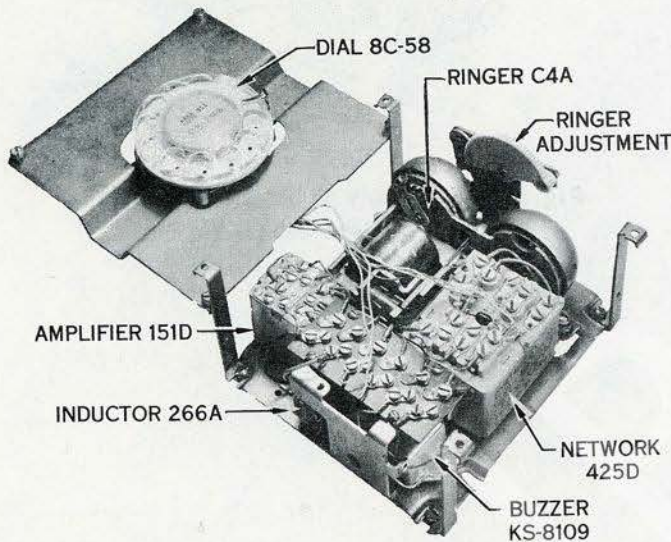

Fig. 13 - 690A3 Subscriber Set, Internal View
- (c) 690A3: Not provided with a faceplate, mats, or dust pan. Equipped with mounting screws, a top plate, and brackets for mounting the set in the dust pan of a 400-type key mounting (Fig. 13).